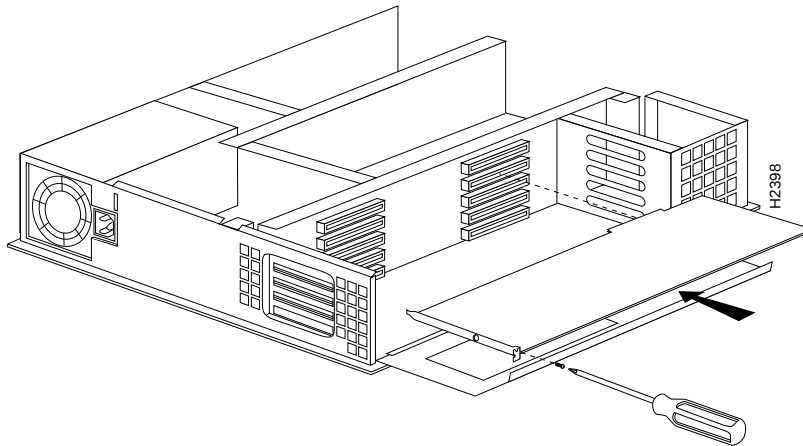

Figure 4-5 Inserting the EISA Adapter into the EISA Slot
Step 5 Without touching any electrical components, slide the adapter into the slot. Press firmly into place. (See Figure 4-5.)